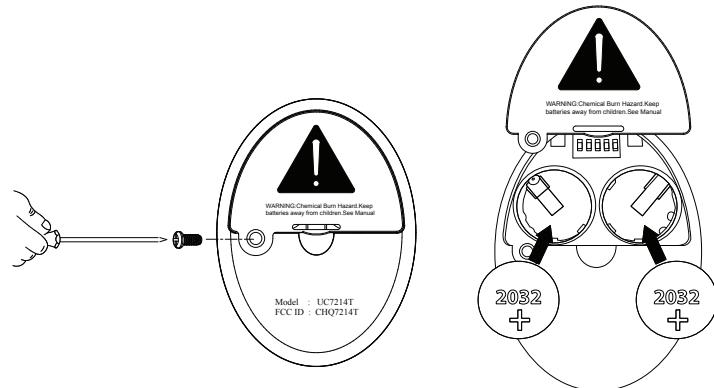
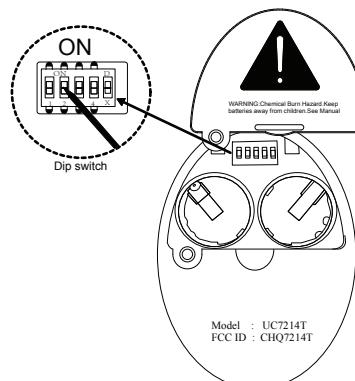

Fig. 21
Fig. 22
Open the back of the transmitter by loosening the screw (figure 21). The frequency selector is a "dip switch block" inside the battery compartment of the transmitter (see figure 22). You change frequencies by arranging the small switches numbered 1 through 4 in a up or down position. 16 Possible frequencies or combinations are possible. The fifth switch, marked D and X sets the system for operation with incandescent or fluorescent lamps. It is essential to set this switch correctly. If your ceiling fan is equipped with incandescent lamps set this switch to the D position, for fluorescent lamps, set the switch to the X position. If these settings are reversed, the lighting control system will operate erratically and could damage your ceiling fan.
2. Insert both batteries and make sure they are seated correctly in each recess with the positive + sign facing up. Replace the battery cover. (Figure 21)